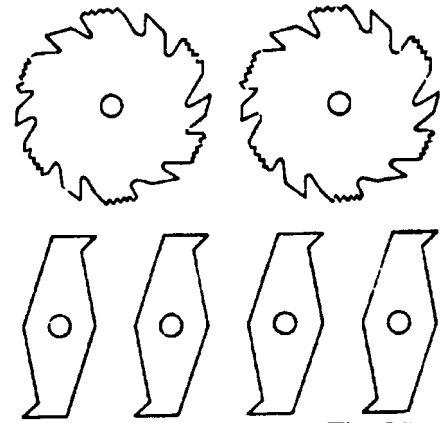
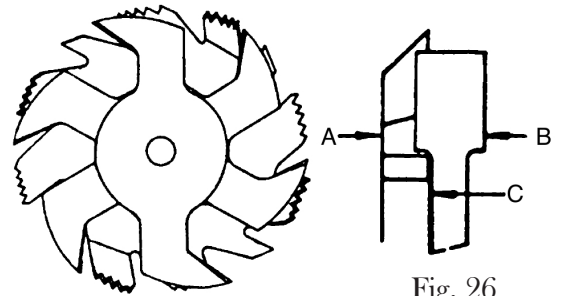

Fig. 25
Fig. 26
Dadoing is cutting a rabbet or a wide groove into the work. Most dado head sets are made up of two outside blades and four or five inside cutters, as shown in Fig. 25. Various combination of blades and cutters are used to cut grooves from 1/8 in. to 13/16 in. for use in shelving, making joints, tenoning, grooving, ect. The cutters are heavily swaged and must be arranged so that this heavy portion falls in the gullet of the outside blades, as shown in Fig. 26. The saw and cutter overlap is shown in Fig. 26, (A) being the outside blade, (B) being the inside cutter, and (C) being a paper washer which can be used as needed to control the exact width of groove. A 1/4 in. groove is cut by using the two outside blades. The teeth of the blades should be positioned so that the raker on one saw is beside the cutting teeth on the other saw. The dado head set is assembled to the saw arbor in the same manner as the saw blade. The blade guard and anti-kickback finger assemblies can not be used when dadoing operations and must be removed from the saw. The riving knife must be set in the “down” position and the included dado table insert must be used in place of the standard table insert. Never use the dado head in a bevel position unless you make your own dado insert! Always reinstall blade guard and anti-kickback finger assemblies after operation is complete!